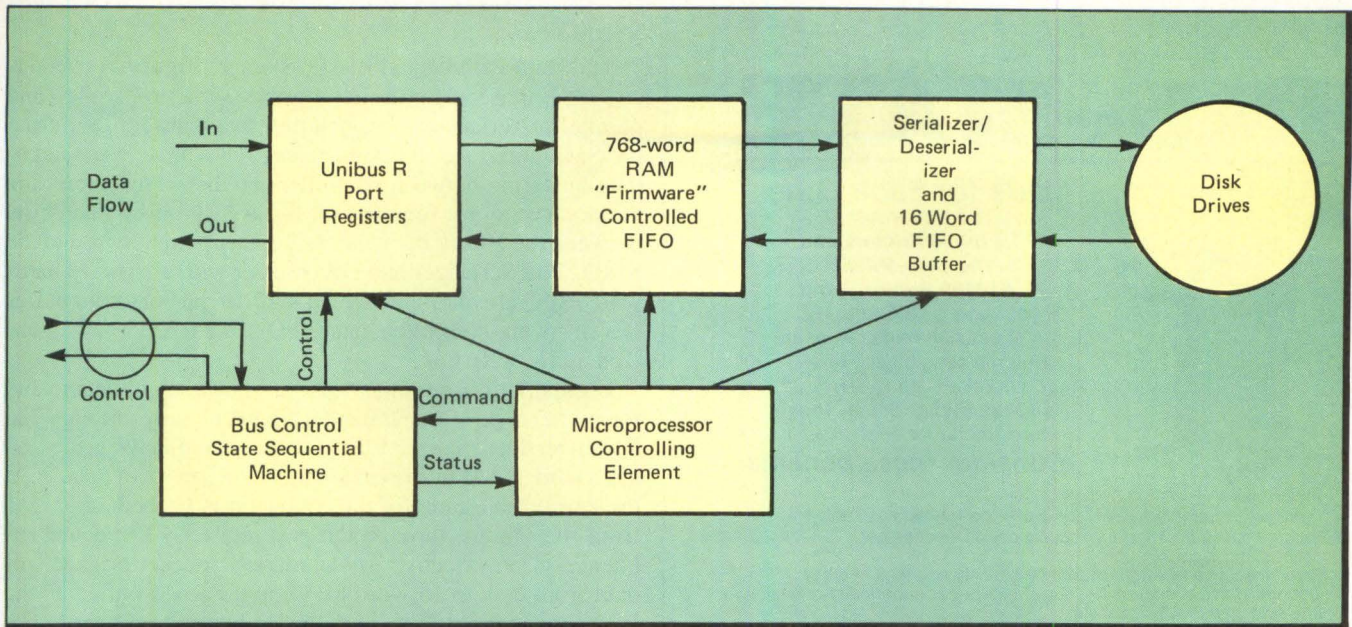

Figure 7: The "elastic" data buffering in the system. This buffering accommodates the asynchronism between the disk and the Unibus®.
**Figure 7** illustrates the "elastic" buffering of data to and from the disk. Data transfers bidirectionally through the Serializer/Deserializer FIFO, entering and leaving the 768 (1K) work RAM that operates under the control of the  $\mu P$ . At the appropriate time for the Unibus, it is strobed on or read from the Unibus through the port registers. The actual sequence is an effective asynchronous "bucket brigade" of data from disk to 16-word FIFO, to the RAM buffer, to the Bit-sequencer, and finally to the Unibus port on a read. The reverse data flow occurs on a disk write. This approach allows the  $\mu P$  to accommodate asynchronism within the system.